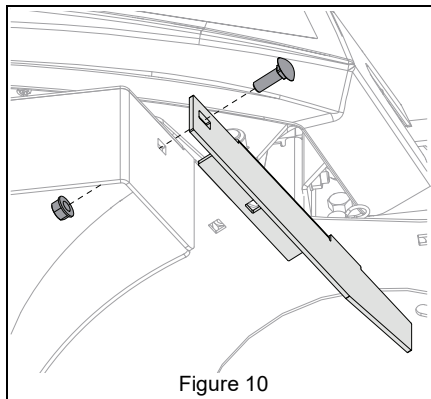

Figure 10
2. Remove 5/16" round head square neck bolt and 5/16" nut retaining deflector strip and remove strip. Retain hardware and strip for operation without bagger. See Figure 10.
8. *Model 815046 Only:* Reinstall deflector strip. See Figure 10.